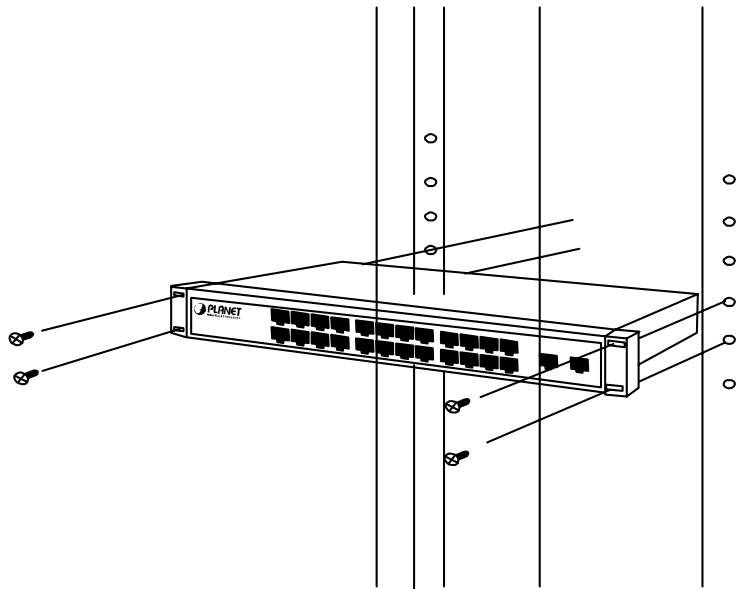

Figure 5: Mounting the Switch in a Rack
Step5: After the brackets are attached to the switch, use suitable screws to securely attach the brackets to the rack, as shown in Figure 5